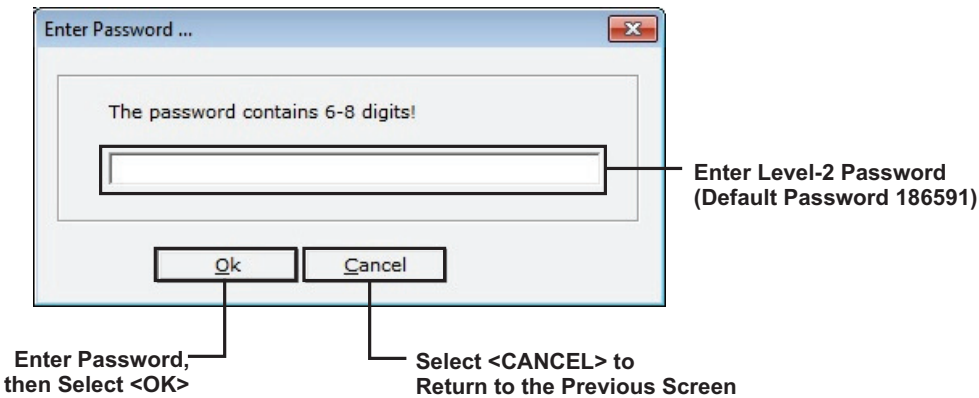

Figure 4-26. Enter Password
2. Select either the "All" or "Range" radio button. If "Range" is selected, enter the range of dates to receive. Select **<OK>**. In response, the prompt for a password (Figure 4-26) is displayed.